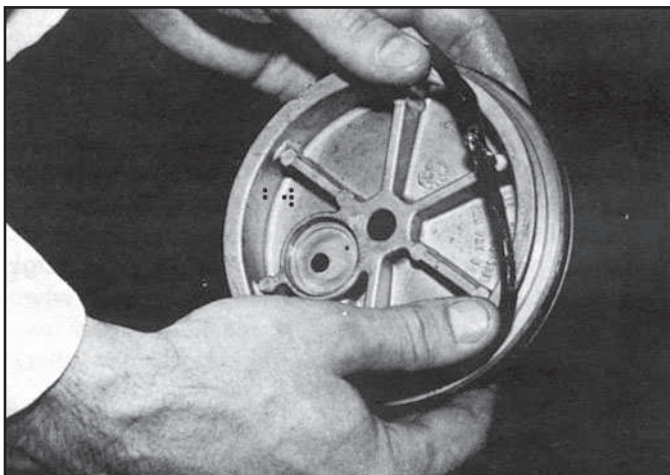

Figure 6 – Desiccant Sealing Plate
5. Thoroughly lubricate the two new o-rings and install them in their respective grooves in the purge plate. (See Figure 6.)